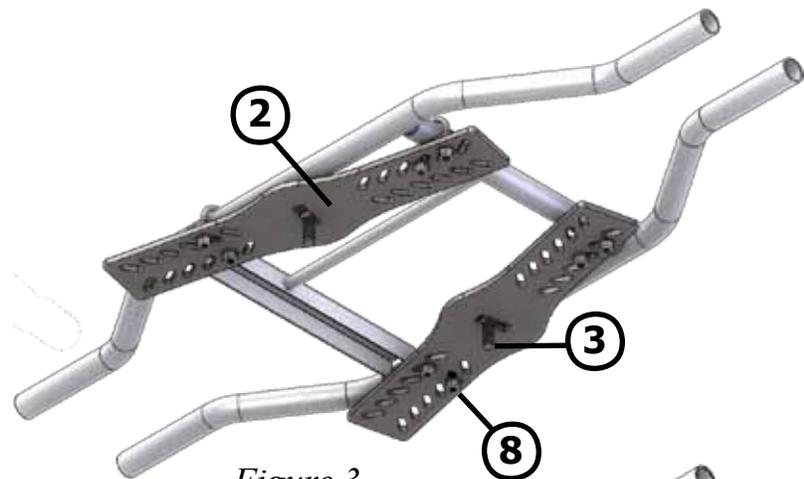

Figure 3
4. Install the carriage bolts #3, into the center hole of the mount straps #2. Loosely attach the assembled mount straps #2 to the U-Bolt using the fasteners #8. Shown in Figure 3 & 4.